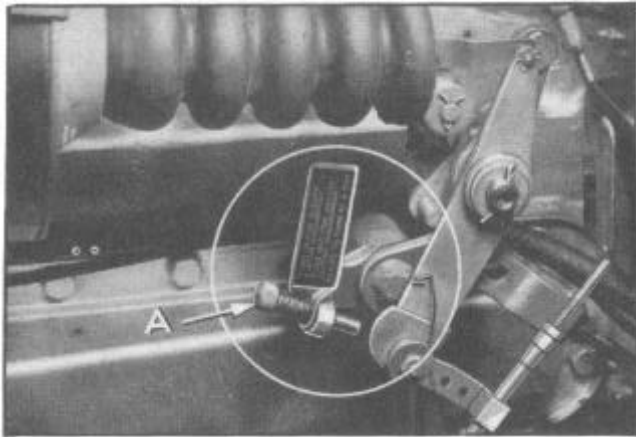

Figure 21--Final Adjustment
As soon as the throttle starts opening the clutch should engage. The cushion point stop screw (A), Figure 21, and throttle should be so adjusted that the car begins to move (slightly) upon the first increase of engine speed.